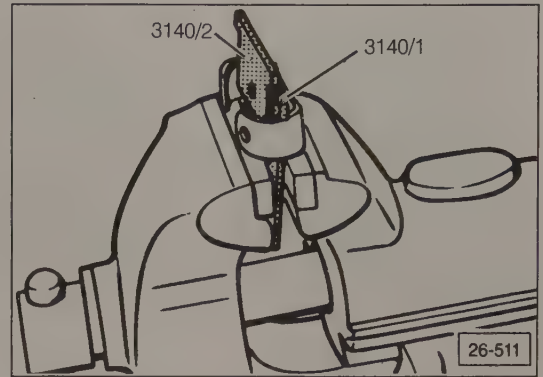

Fig. 4-9. Removing short wedge 3140/2 with longer starting wedge 3140/1.
4. If the old clamps are to be reused, the wedges should remain in the clamps until they are reinstalled. If it is necessary to replace the clamps, place the old clamp with the installed wedge between the jaws of a vise, as shown in Fig. 4-9. Open the jaws of the vise approximately 15 mm ($\frac{9}{16}$ in.).